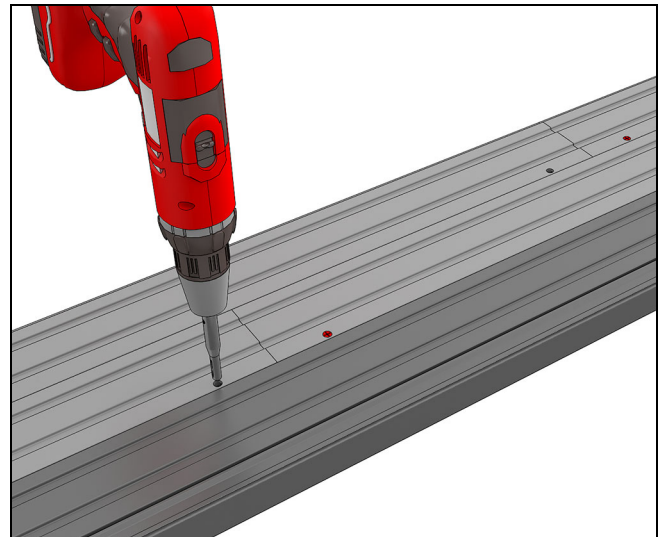

Figure 36
8. Drill pilot holes through the pre-drilled holes (found near the splice areas) using a 1/8" (3) Vix (self centering) drill bit. The depth cannot exceed 1/2" (13) deep. See Figure 36.